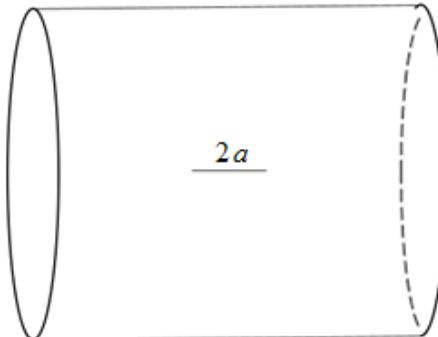

Figure 2
2. The wall of the pressure vessel shown in Figure 2 is subjected to cyclic pressure loading. The stress engineer designs the wall to have a maximum stress of 1/4 of the yield strength of the material. Material data for the steel alloy is given in Table 1. Assume $Y=1.0$.